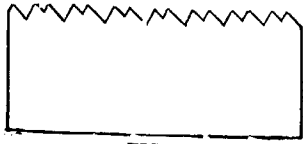

FIG. 1
The Saw in Fig. 1 after jointing.
A. If the teeth are uneven as shown in Fig. 1 it is necessary to proceed with operation 2, 3, 4 and 5.